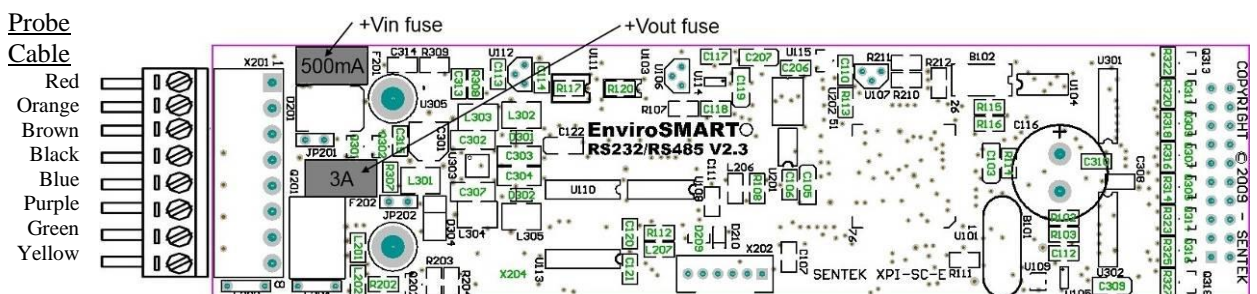

Figure 9 EnviroSCAN interface and wiring diagram
- Twist the exposed copper wires and fold in half. Then fasten into the probe connector according to the diagram in *Figure 9*.
- c) Screw each wire of the internal cable into the interface connector according to the diagram in *Figure 9*.